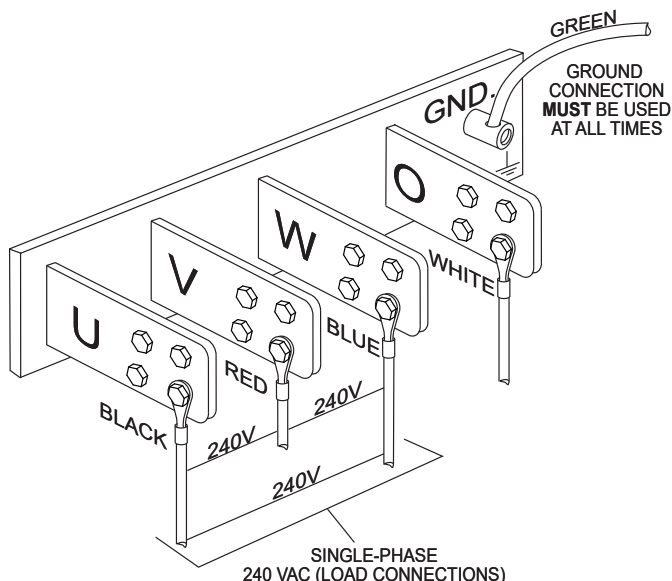

Figure 17. Voltage Regulator
3. Turn the **voltage regulator** (Figure 17) clockwise to increase voltage output as needed. Turn counterclockwise to decrease voltage output.
2. Adjust the voltage regulator (Figure 17) for an output of 208 volts to obtain 120 volts at the UVWO terminals.